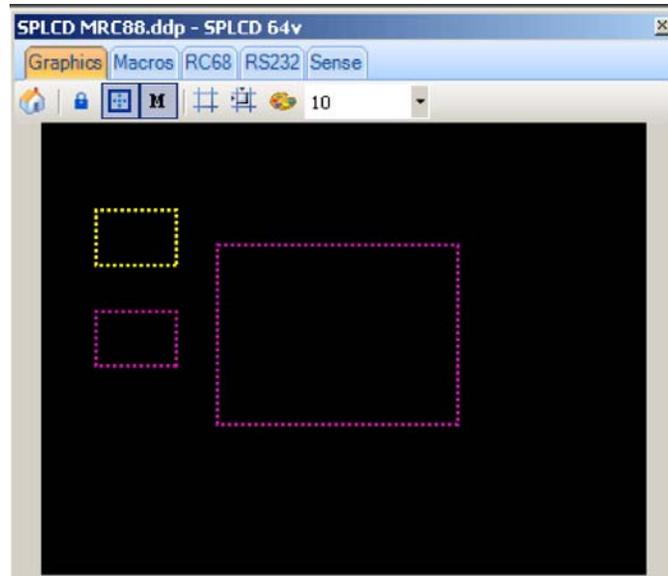

Figure 64 – Placing Transparent GTL's
**NOTE:** In the example, **Transparent Buttons** for **Volume UP/DOWN** have been placed in the *same position* as the **Volume Buttons** in **PiP Mode (Figure 64)**, making the display more intuitive to the user. To position the **Transparent Buttons** to the *same locations* as the regular **Volume Buttons**, in **PiP Mode**, click the **Volume UP Button** and note the **Button X/Y Coordinates** in the **Information Bar** at the bottom of **Universal Dragon**. *Navigate* to **Full Screen Mode**, click the **Transparent GTL** for **Volume UP** and use the **arrow keys** on the keyboard to *position* the **Button** to the matching **X/Y values**. Repeat for **Volume DOWN** and any other **Transparent GTL's** as appropriate. Some users may prefer to have the transparent Volume UP/DOWN and Channel UP/DOWN buttons in the four corners of the screen in Full Video Mode.